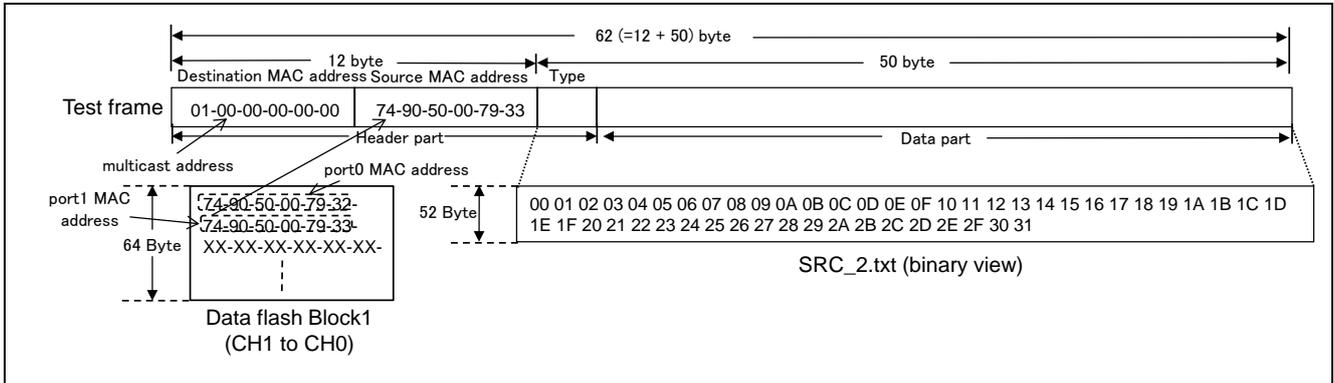

Figure 3.3 Frame format
Figure 3.3 explains the test frame format in relation to the Mac addresses written in the data flash, the test data refer to the SRC\_2.txt when the direction of frame transfer is from CH1 to CH0, and the multicast address selected by index 0 (MUL\_IDX = 0). The port0 MAC address of the RSK board2 is written beginning 6 byte in the Block1 whose address is “0x0010\_0040 – 0x0010\_0045” and the port1 MAC address of the RSK board2 is written next 6 byte in the Block1 whose address is “0x0010\_0046 – 0x0010\_004B”.
(1) Set multicast frame filter function of the CH1.
(2) Read the test data transferred as the test frame from the USB memory via USB Host.
(3) Load MAC addresses from the data flash.
(4) Create the test frame showed by the Figure 3.3.
(5) Transmit the test frame from port1.
(6) Cancel or receive the test frame depend on the FFLTR setting.
(7) If the test frame received, relay and transmit it to CH0.
(8) Receive the relayed frame.
(9) Measure the frame transfer interval using the MTU3.
(10) Write the reception data transferred as the frame to the USB memory.
(11) Repeat the specified times of the USB read, frame transfer with interval measurement, and USB write. Thereafter, write the result of the frame transfer intervals to the USB memory.
(12) The MAC addresses in the data flash are erased if “FORCE\_ERASE\_PRM” option is defined.